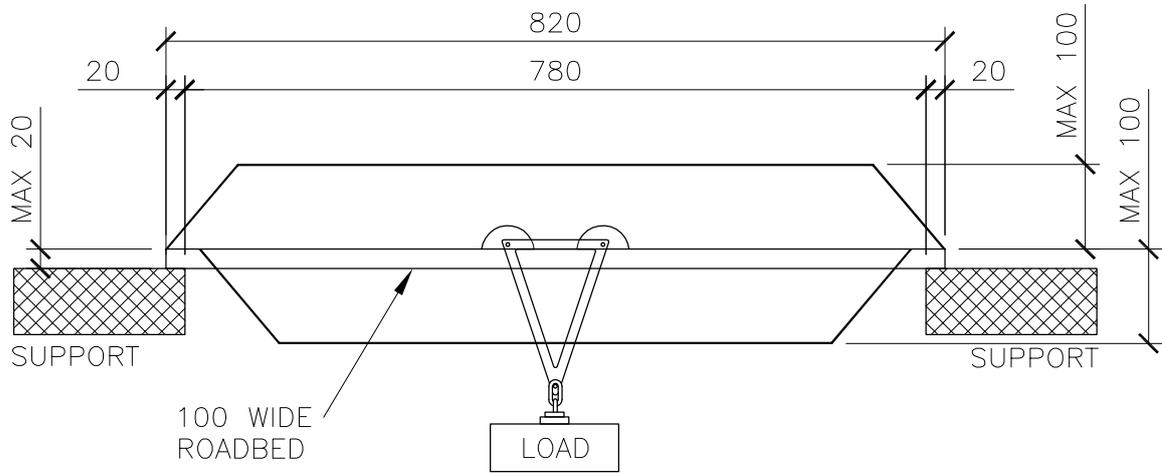

FIGURE 2
1. Each bridge must span 780 mm clear (See Figure 2), and the bridge should be at least 820 mm long overall to allow for the supports.
3. The height of the bridge above the roadbed is not to exceed 90 mm (See Figures 2 and 3.).
All bridges must provide for a 100 mm horizontal passageway called the bridge deck, which must span the entire length of the bridge. The loading apparatus must rest on the roadbed of the bridge. The design of the passageway must allow for the clear passage of vehicles and must be a minimum of 50 mm high and 100 mm wide. The surface of the roadbed must not be more than 20mm above the supports. The bottom of the bridge must be not more than 100 mm below the roadbed (see Figures 2 and 3).